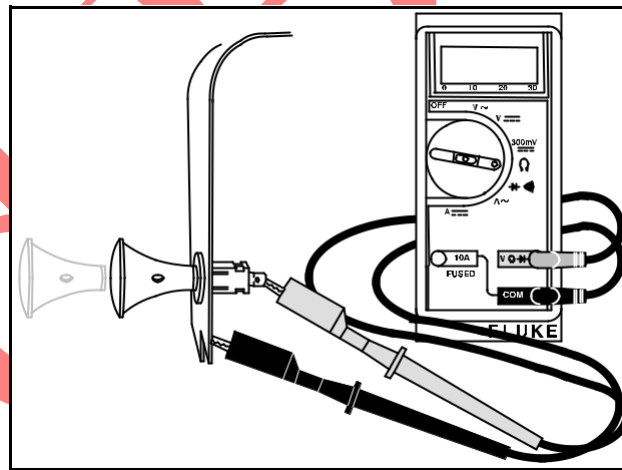

Fig. 112 – CHECKING SWITCH WITH PLASTIC KEY
3. Pull key out and there should be continuity, Fig. 112.